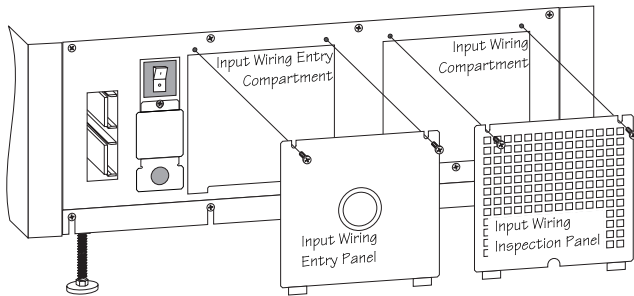

Fig 4-3 Removal of Input Hardwiring Panels
1. Refer to figure 4-3. Locate the input wiring entry and input wiring inspection panels.